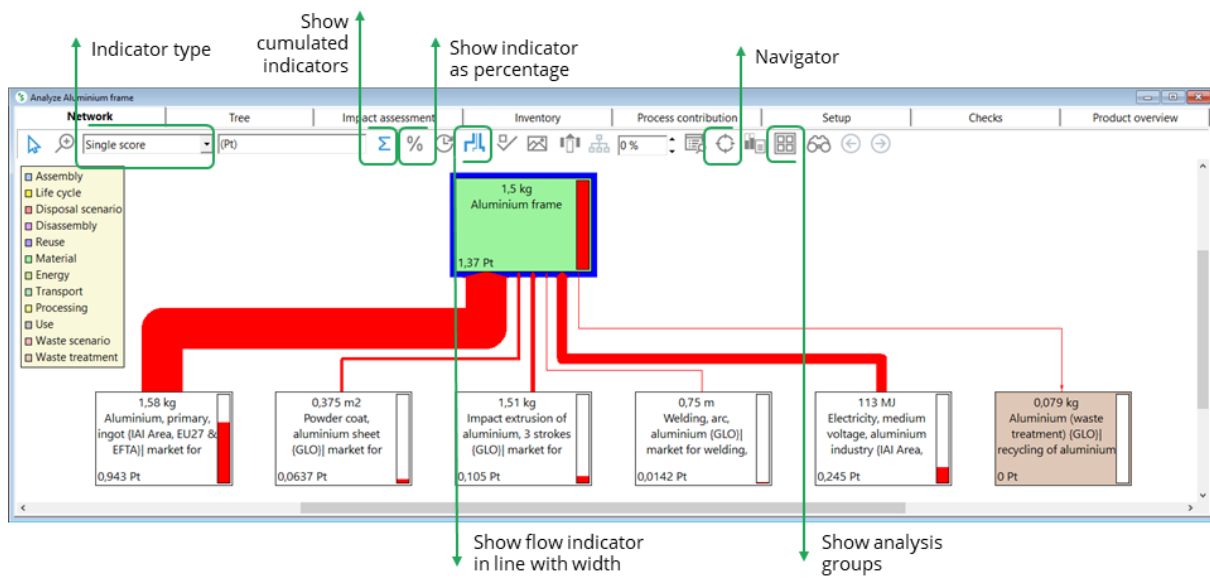

Figure 3.6 Analyze Aluminium frame, Network diagram
- 4) Click on Calculate button at the bottom. If you did not already save this calculation setup, there is a pop-up asking if you want to save the calculation setup first. You will then see Figure 3.6.
With the node cut-off percentage (Figure 3.6) you can create a view only showing the most contributing processes in your network. Processes that contribute less to a selected indicator than the specified percentage will not be shown. If you set the cut-off percentage to zero, then you will see all processes.
**Show flow indicator in line width:** This option allows you to create a Sankey diagram. This means that the thickness of the flow line depends on their environmental impact (as seen in Figure 3.6). If you deselect this option, the flow lines will be represented by identical arrows throughout the network model.